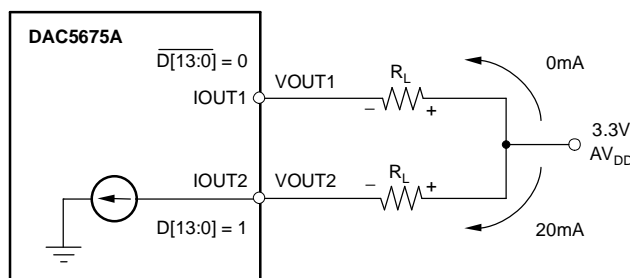
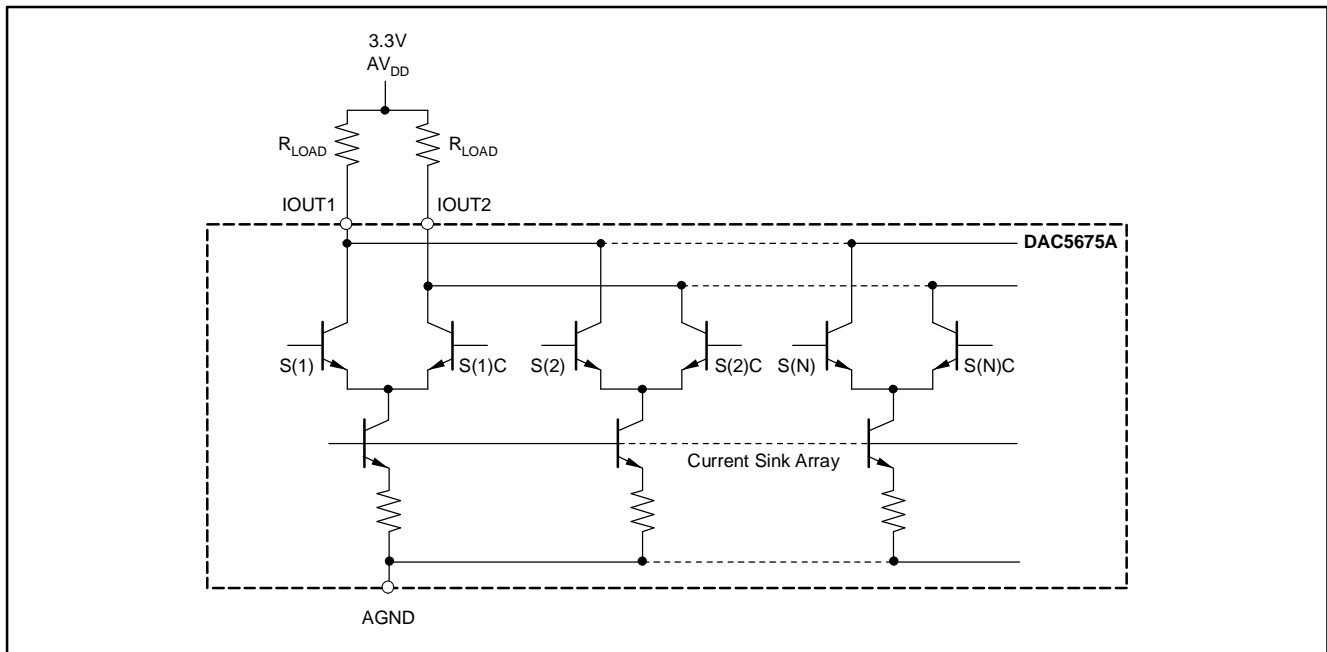

Figure 21. Relationship Between D[13:0], IOUT1 and IOUT2
Figure 22. Equivalent Analog Current Output
The output current flow in each pin driving a resistive load can be expressed as shown in Figure 21, as well as in Equation 2 and Equation 3.
Figure 22 shows a simplified schematic of the current sink array output with corresponding switches. Differential NPN switches direct the current of each individual NPN current sink to either the positive output node IOUT1 or its complementary negative output node IOUT2. D[13:0] controls the S(N)C current switches and $\overline{D}[13:0]$ controls the S(N) current switches, as explained in the previous **DAC Transfer Function** section (see Figure 21). The output impedance is determined by the stack of the current sinks and differential switches, and is $> 300k\Omega$ in parallel with an output capacitance of 5pF.